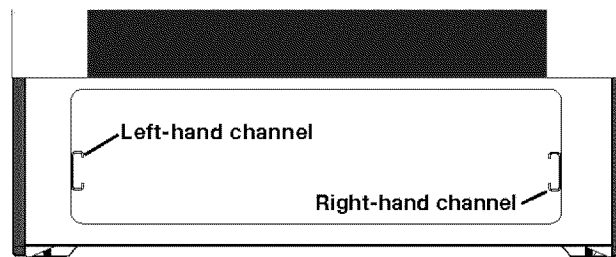

Fig. 2
2. Carefully line up both sides of the warmer oven drawer glide rails to the outer compartment glide channels located inside the empty warmer oven compartment -*Fig. 2*.